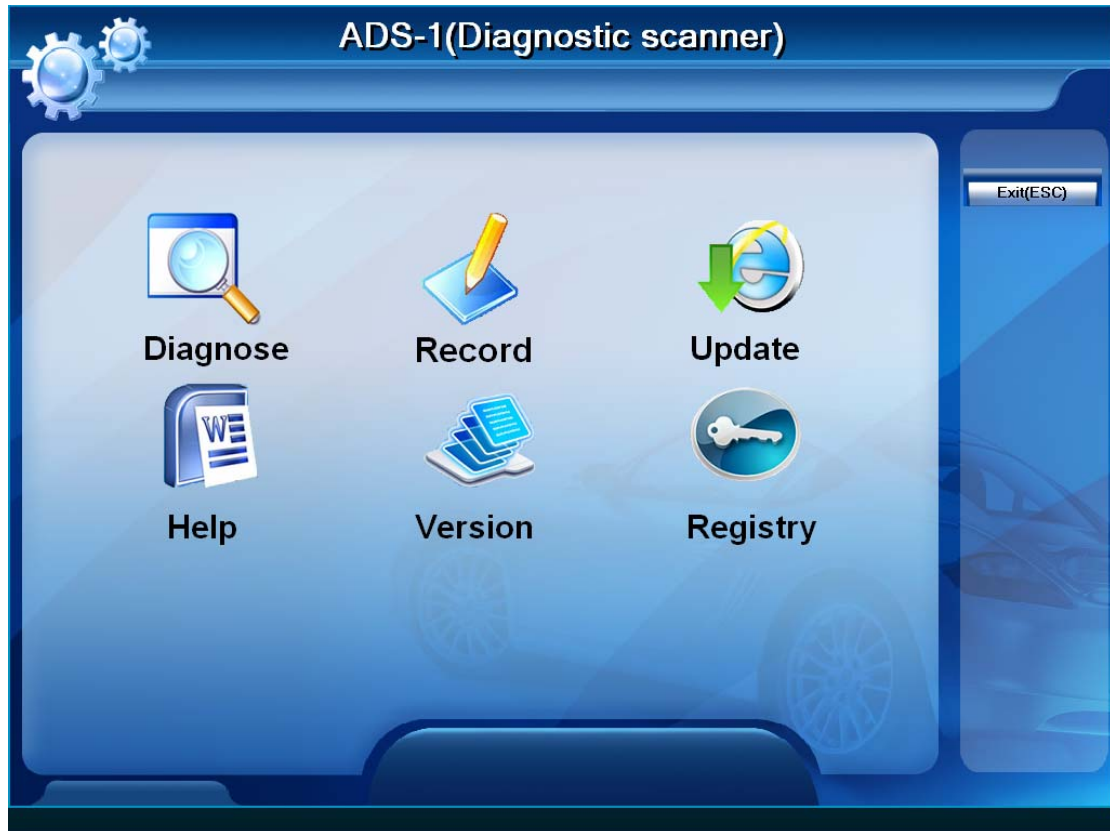

Figure-22
22. Click “OK” to finish the data saving, then click “Back” to come back to figure-22